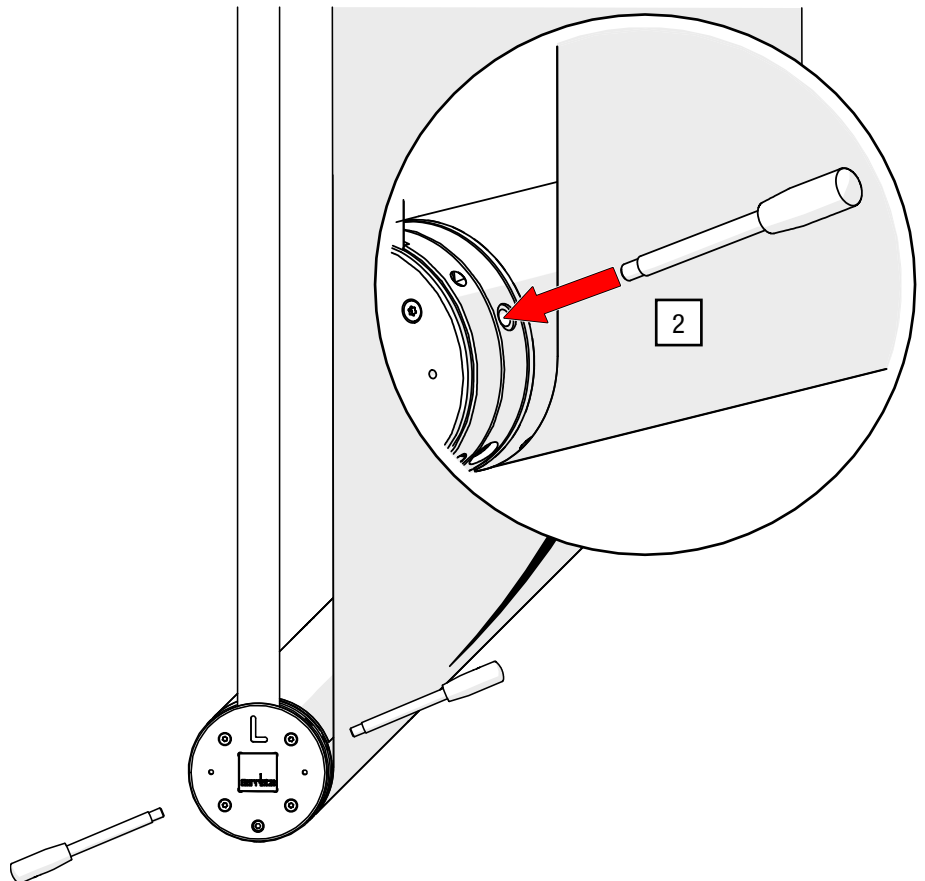

Fig. 30: Fixing the clamping lever to the clamping ring
2. Fix two clamping levers (e.g. an M12 screw or Ganter clamping lever – not included in the scope of delivery) hand-tight in the M12 threaded holes provided on the clamping ring (see Fig. 30).